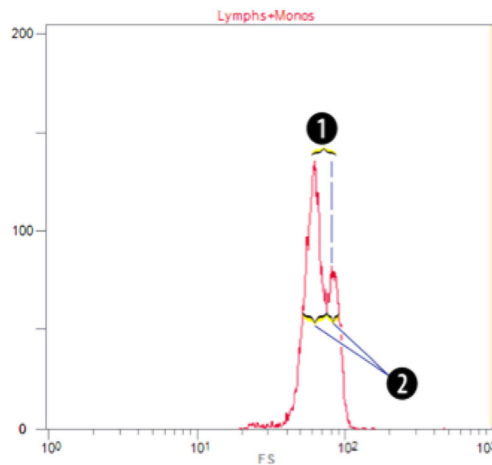

Figure 4 – Separation Quotient = - 4.7
Note: Figure 4 is representative of poor separation and displays good resolution, but poor sensitivity. The logarithmic difference of the mean channel numbers (1) is less than two standard deviation points, making it difficult to distinguish between the two cell populations, indicating poor sensitivity. However, the two cell populations have little variance in the values assigned to each cell population's distinct quantity of fluorescence (2), indicating good resolution.
< 3	Poor separation which worsens as the numbers decrease. See Figure 4.